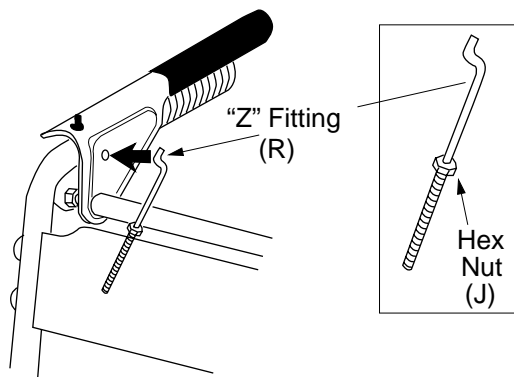

Figure 6
1. Thread hex nuts (J) onto the "Z" fittings (R) (see inset.). Insert "Z" fitting into hole in clutch grips. See Figure 6.